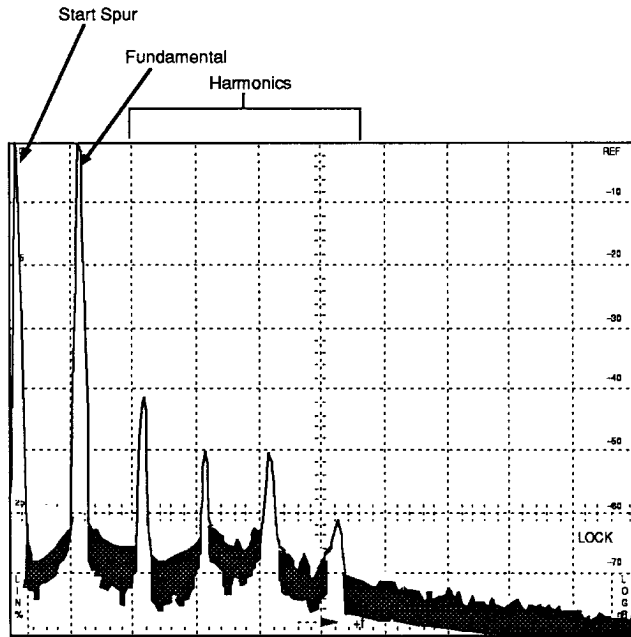

Figure 3-8. Harmonic spur distribution near the 100 kHz fundamental (10 dB/div display).
- (5) The test spectrum analyzer will display harmonic spurs approximately one division apart. The signal at the left graticule line is the start spur (0 Hz), the signal to the right of the start spur is the fundamental, and all signals to the right of the fundamental signal are harmonic spurs. See Figure 3-8.
- (6) Check that the harmonic spurs are at least 20 dB down from the fundamental.
- (7) Reset the test spectrum analyzer span/div to Max Span, and enable MAX SPAN on the spectrum analyzer/tracking generator system.
- (8) On the spectrum analyzer/tracking generator system, enable MANUAL SCAN by pressing SWP/TRIG 7.
- (9) Manually sweep the spectrum analyzer/tracking generator system slowly from 100 kHz to 1.8 GHz while observing the test spectrum analyzer display. The high signal moving from left to right as the system is manually swept is the fundamental. Ignore other signals that move from left to right. Signals that move from right to left are non-harmonic spurs.
- (10) Check that all non-harmonic spurs are at least 35 dB down from the fundamental.
- (11) Disconnect the test spectrum analyzer from the TG OUTPUT.